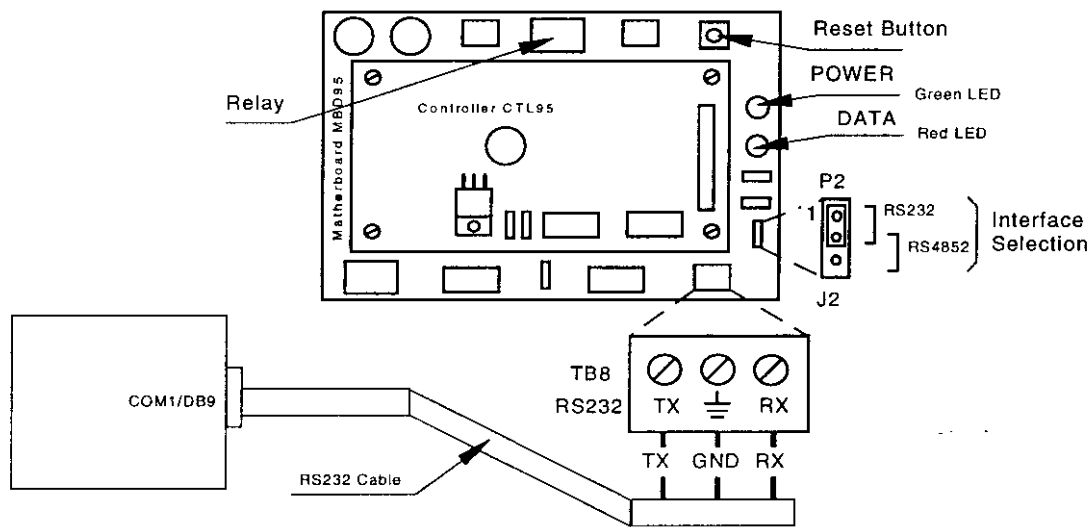

Figure 5-1: Connecting the Reader to a PC/Laptop
For the initial set-up, Kasten Chase recommends using the RS-232 connection with a local, mobile PC (Laptop), as shown in Figure 5-1 below.
2. Referring to Figure 5-1, check whether the relay on the MBD95 board immediately clicks, and the green POWER LED is on.
To force the Reader into the *learning* mode, follow the steps below. (See Figure 5-1).
There are 2 ways to reset the Reader (see Figure 5-1):